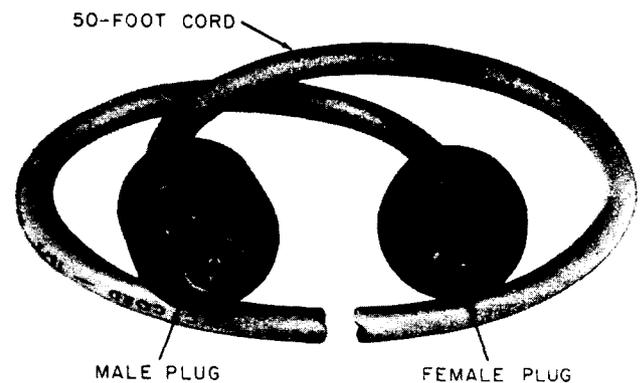

Fig. 5—B Weatherproof Cord
(d) Cord, Weatherproof, B (used with recreational vehicle and boats, Fig. 5) can be ordered as follows:
2.06 The B weatherproof cord (Fig. 5) is used to provide a telephone connection between the post-mounted jack at the service pad and the jack on the recreational vehicle in a trailer park or between the dock and boat in a marina. It consists of a 16-gauge, 3-wire [(BK) ring, (W) tip, and (G) ground] yellow PVC insulated flexible cord. Lengths of 50, 100, and 150 feet are available with PHONE stamped on the cord at 1-foot intervals for identification. The cord is terminated at one end in a male plug which engages a female jack at the service pad or dock. The
- One B weatherproof cord (for making connection between post and vehicle, Fig. 5)
- One B weatherproof cord (for connection between boat and dock, Fig. 5)